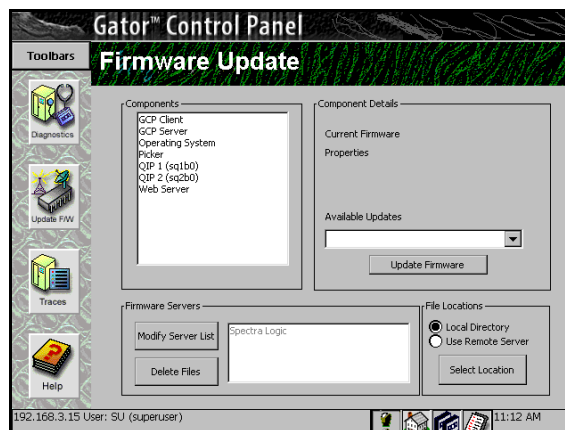

Figure 9-9 *Firmware Update screen.*
2. Select **Update F/W**. The Firmware Update screen opens (Figure 9-9).